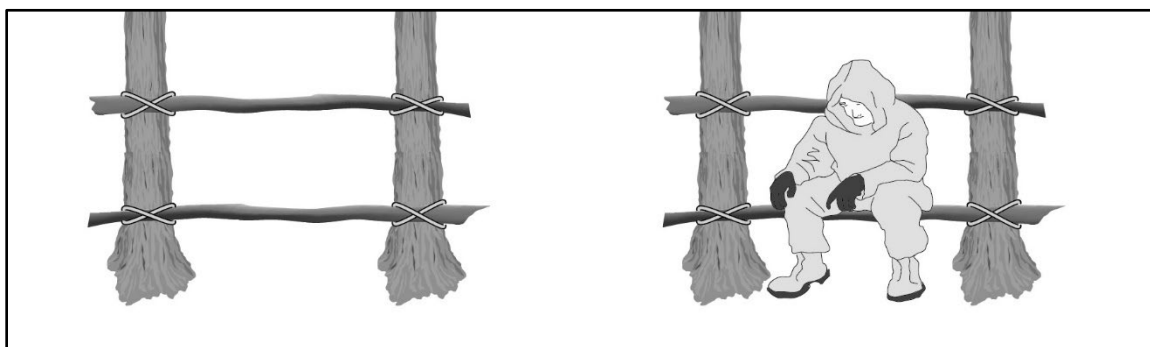

Figure 5-4. Cross-tree latrine
- Another recommended type of latrine is the cross-tree latrine (see figure 5-4 on page 64), especially when used in conjunction with a ration case lined with trash bags: